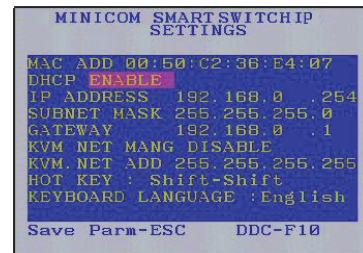

Figure 7 Settings window
2. Press **F2**. The Settings window appears see Figure 7.